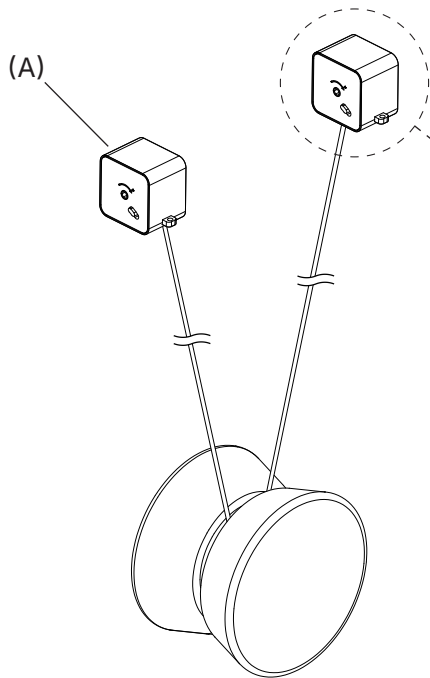
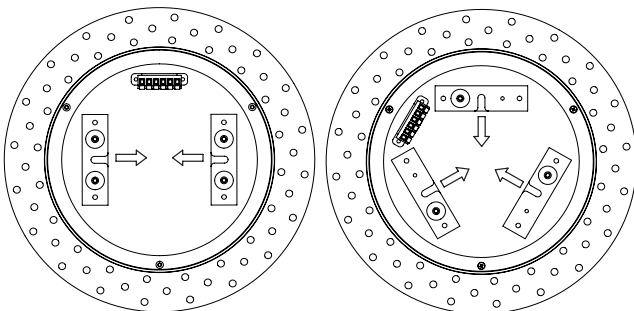

Fig. 4
Fig. 5
Each luminaire has two **Cord Spools (A)** (Fig. 4) for adjusting the cord length and transferring power from pendant to pendant.
1. To install a Cord Spool into a canopy: Loosen the **Mounting Screws (B)** on one of the **Spool Brackets (C)** in the canopy. Place Cord Spool into bracket. Tighten the Mounting Screws into the **Mounting Tabs (D)**.
NOTE: For recessed double and triple canopies, install Cord Spools with **Adjustment Screw (E)** pointing inward toward center of canopy (Fig. 5) for easier access to adjust cord tension (see p. 9).
5. Twist together the outer braided conductor to form the negative wire of the fixture, then strip 5/8" off the end of the inner stranded conductor to form the positive wire of the fixture (Fig. 4).